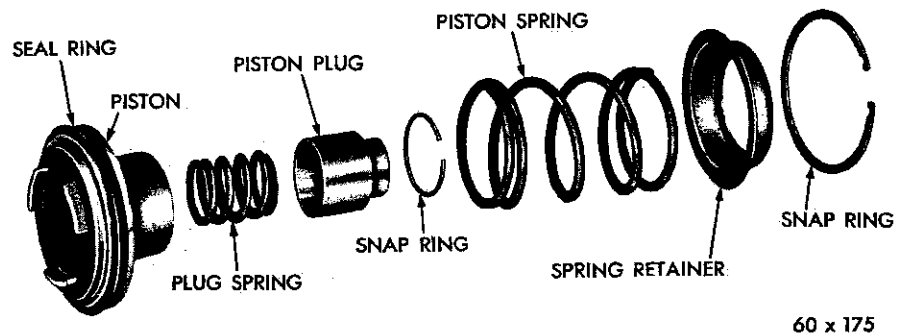

Fig. 80—Low and Reverse Servo (Disassembled View)
(1) Remove the snap ring from the piston and remove the piston plug and spring (Fig. 80).
(1) Carefully work the servo piston assembly into the case with a twisting motion. Place the spring, retainer and snap ring over the piston (Fig. 80).